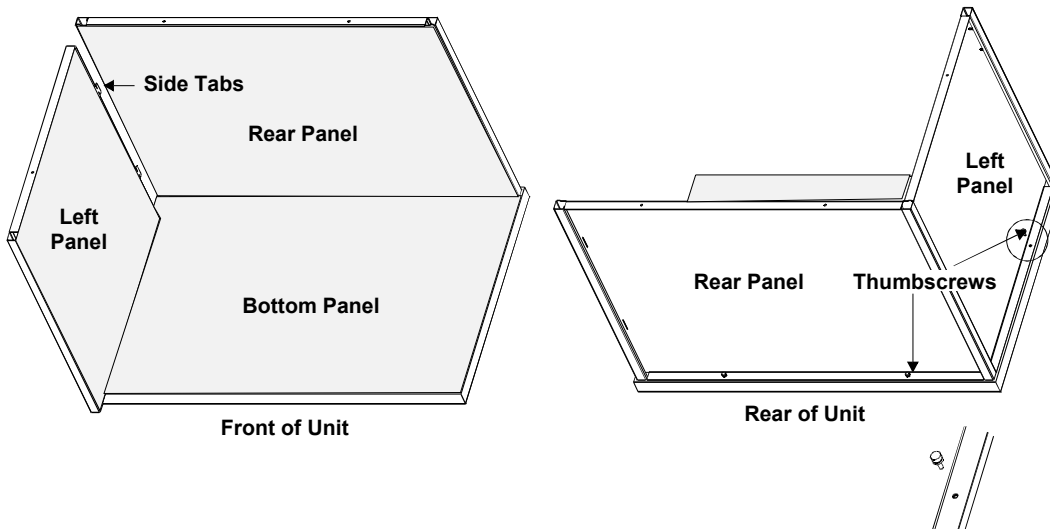

Figure 3. Left Panel Into Rear and Bottom Panel
5. While supporting the Rear Panel, insert the Left Panel (#3) side tabs into the Rear Panel (#2). Fasten the Left Panel to the Bottom Panel by securing it with the thumbscrew as shown in Figure 3.